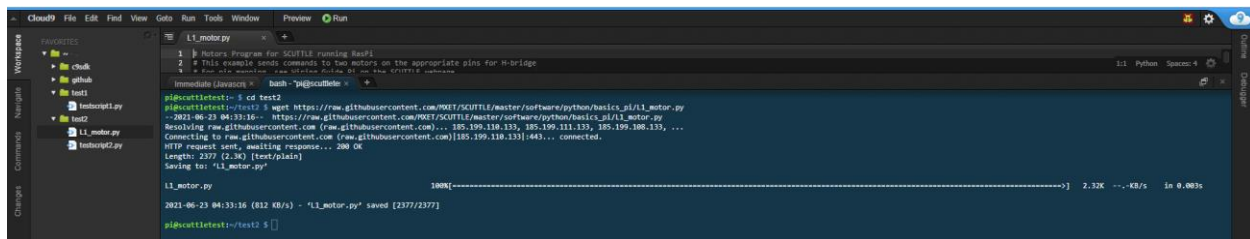

Figure 12
5. Then in the terminal use the '*wget*' command followed by pasting the Raw URL you copied like Figure 12: